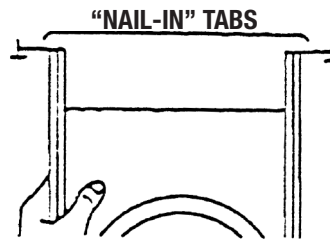
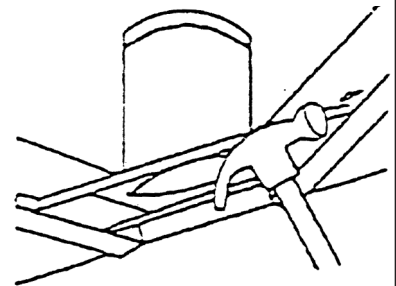

FIGURE 2
FIGURE 3
2. Extend bar hangers to fit between joists and position fixture hammering nails on bars into the joists. Hangers should be level with bottom of joists (Fig. 2). Use T-bar slot in the bottom of bars for suspended (T-bar) ceiling, bending the tabs to hold T-bar tightly (Fig. 3).